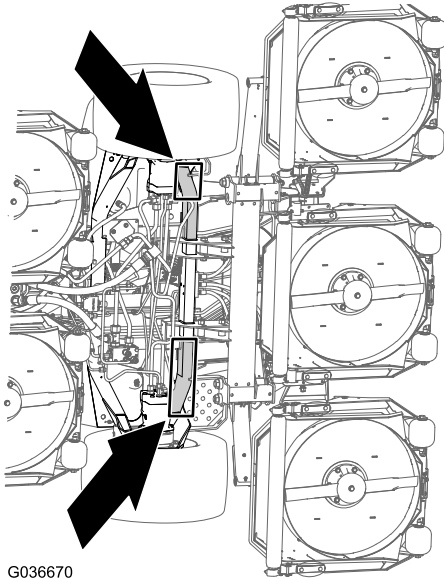

Figure 77
**Front of the machine**—at the frame of the machine, forward of the wheel-drive motors (Figure 77)